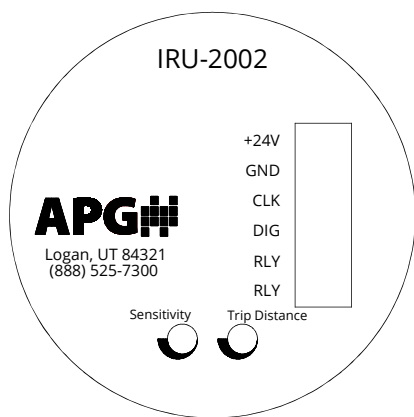
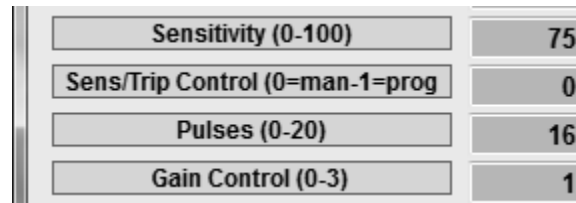

Figure 2.1
Figure 3.3
Potentiometers for setting or adjusting *Trip Distance* (IRU-2002 only) and *Sensitivity* (IRU-2002 and IRU-2003) are located inside the sensor housing along with terminal strips (See Figures 2.1 and 2.2). Both settings can also be controlled via the I2000SWR software (See Figure 3.3).
- For IRU-2002 and IRU-2003 sensors, system wiring must be connected to internal terminal strips prior to physical installation. (See Figures 2.1 and 2.2)
For IRU-2002 sensors, *Sensitivity/Trip Point Control* is used to select between potentiometer or software control of *Sensitivity* and *Relay Trip Point*. (See Figure 2.1)
4 mA Set Point sets the distance at which the output is 4 mA. This distance is measured from the Zero Point. See Figures 3.3 and 3.4.